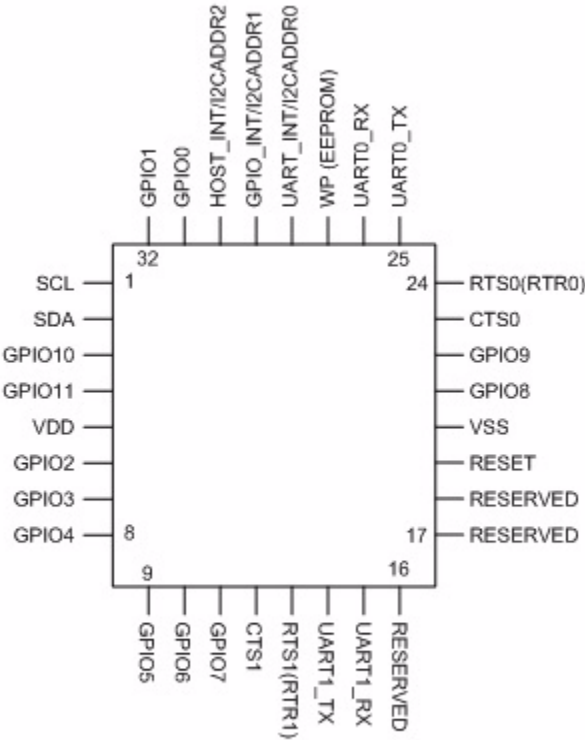

Figure 5. ZDU0110QUX Pin Configuration
- Figure 5. ZDU0110QUX Pin Configuration 7